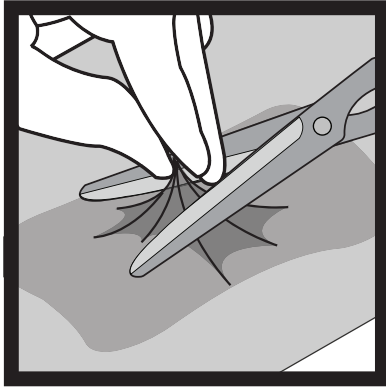

Figure 10
11. Cut a 1cm diameter hole in the top of the drape at a convenient location over the dressing by pinching and lifting the drape (**Figure 10**).